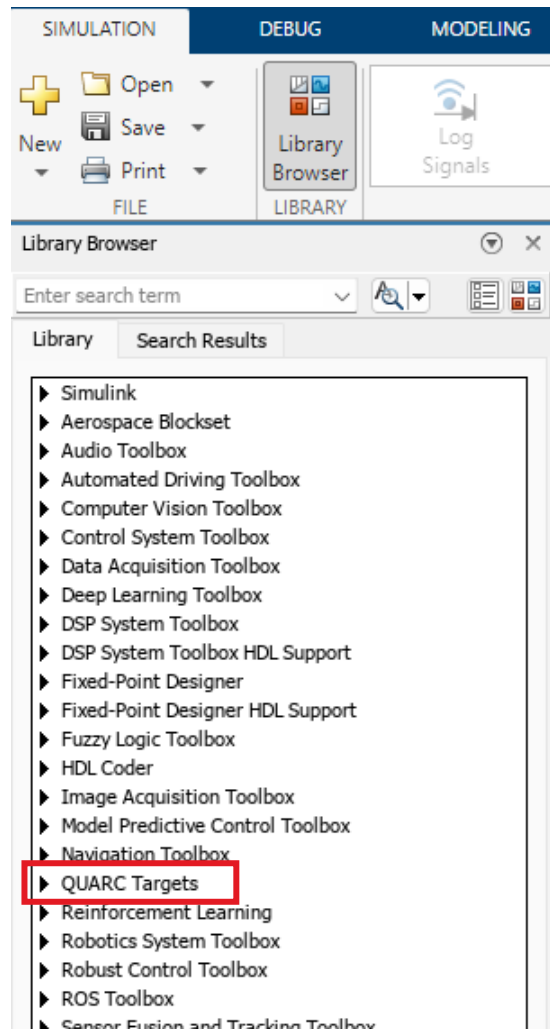

Figure 2. QUARC Targets in the Simulink Library Browser
2. Open the Simulink Library Browser window by clicking on the icon highlighted in Figure 2.